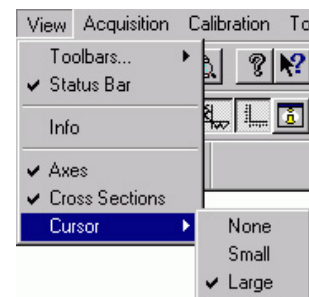

Figure 102. Selecting the Large Cursor
4. Click on the  (**Autoscale**) button at the bottom of the image window. Then select the large cursor by clicking on Cursor on the View menu and then on Large as shown in Figure 102.